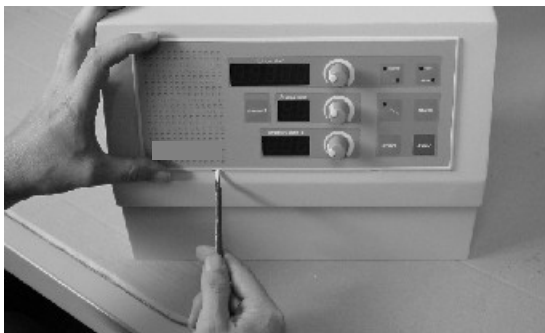

figure 19
- Unlatch the frame of the control panel with a small screw driver (see figure 19).